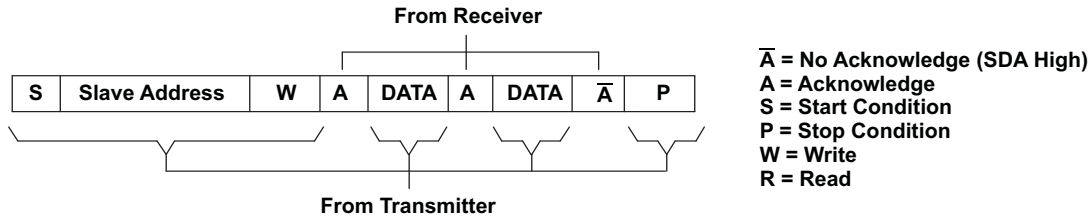
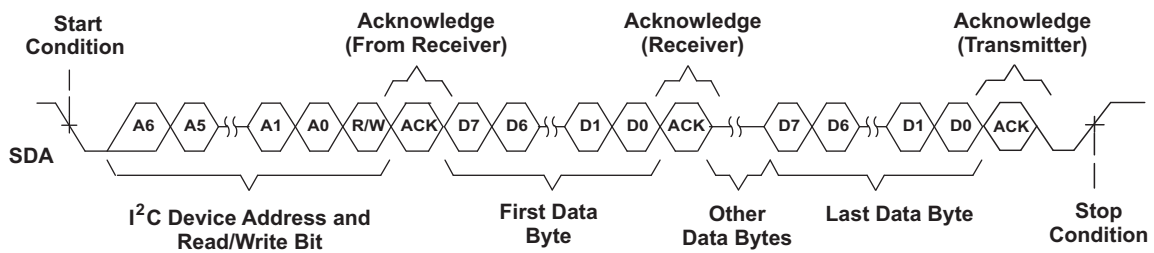
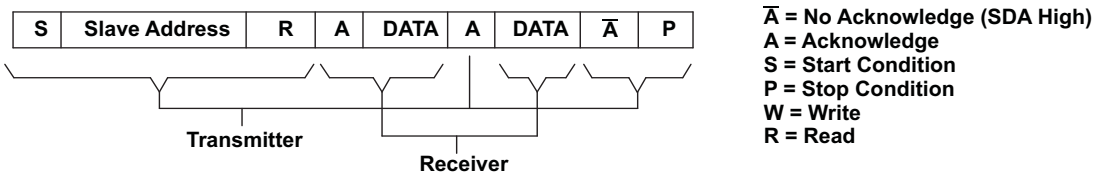
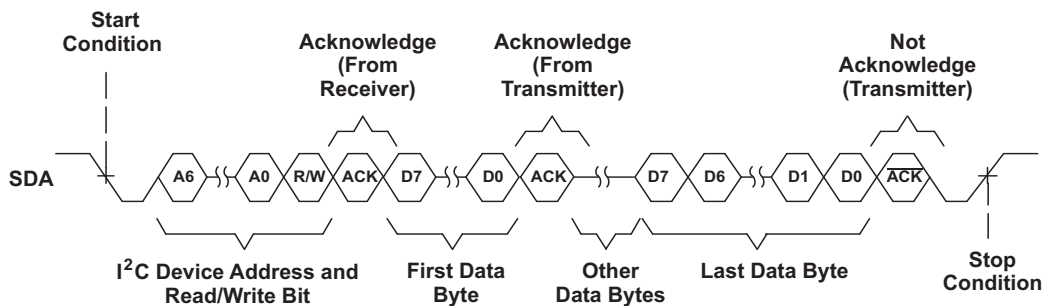

Figure 27. I2C Write Cycle
Figure 28. Multiple Byte Write Transfer
Figure 29. I2C Read Cycle
Figure 30. Multiple Byte Read Transfer
During a write cycle, the transmitting device must not drive the SDA signal line during the acknowledge cycle so that the receiving device may drive the SDA signal low. After each byte transfer following the address byte, the receiving device will pull the SDA line low for one SCL clock cycle. A stop condition will be initiated by the transmitting device after the last byte is transferred. An example of a write cycle can be found in Figure 27 and Figure 28. Note that the TMDS442 does not allow multiple write transfers to occur. See Example – Writing to the TMDS442 section for more information.
acknowledges data bytes sent by the slave. When the master has received all of the requested data bytes from the slave, the not acknowledge (A) condition is initiated by the master by keeping the SDA signal high just before it asserts the stop (P) condition. This sequence terminates a read cycle as shown in Figure 29 and Figure 30. Note that the TMDS442 does not allow multiple read transfers to occur. See Example – Reading from the TMDS442 section for more information.
The TMDS442 operates using only a single byte transfer protocol similar to Figure 27 and Figure 29. The internal sub-address registers and the functionality of each can be found in Table 2. When writing to the device, it is required to send one byte of data to the corresponding internal sub-address. If control of two sink ports and source plug-in status is desired, then the master will have to cycle through the sub-addresses (sink ports) one at a time as illustrated in the Example – Writing to the TMDS442 section for the proper procedure of writing to the TMDS442.